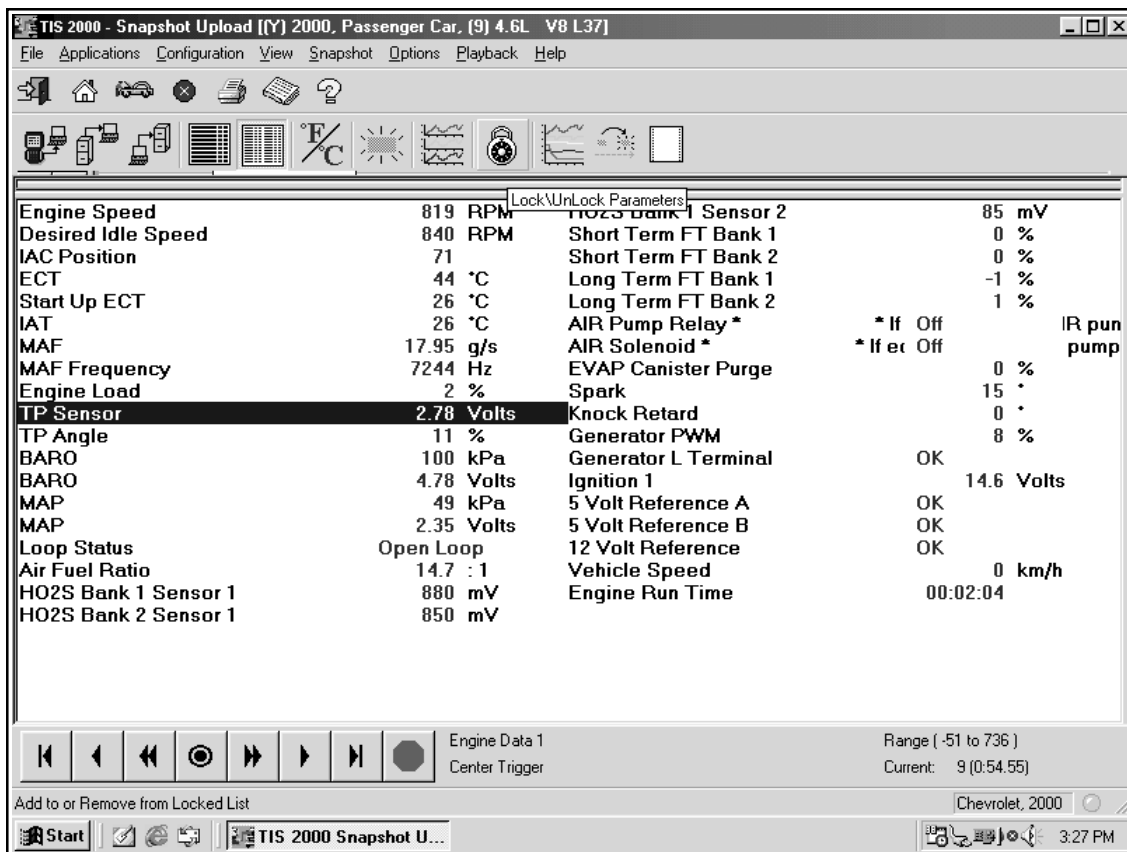
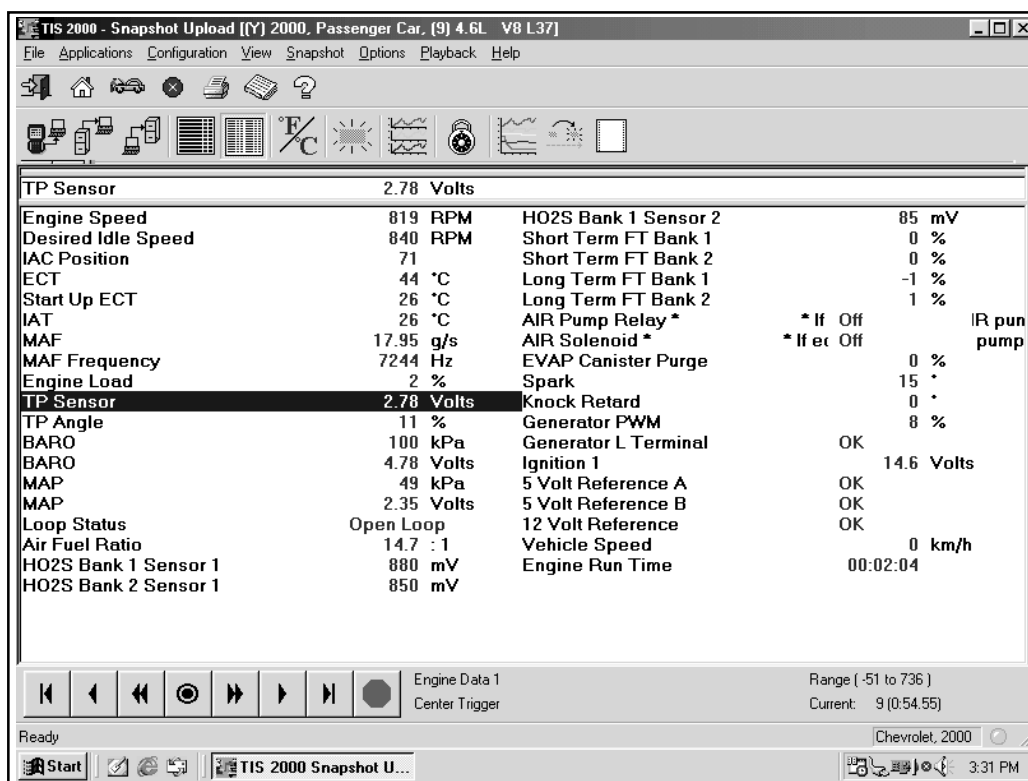

Figure I-77, Lock/Unlock Icon
Figure I-78, Locked List
1. Click on the desired parameter to highlight it, then click on the Lock/Unlock Parameters icon (Figure I-77). The selected parameter will appear at the top of the data list, above a lock line (Figure I-78).